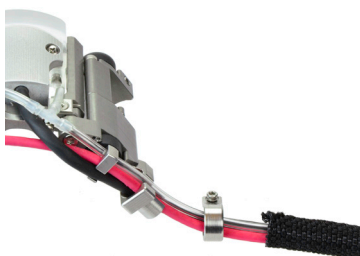
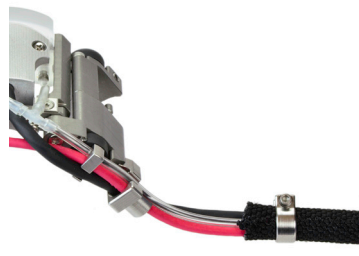

Figure 36
Figure 37
- j. Re-install the sleeve clamp over the cable/tube bundle (Figure 36) and slide it over the protective sleeving as shown in Figure 37 (be aware of the clamp orientation). Install the sleeve clamp screw so the threads just start to engage in the sleeve clamp.